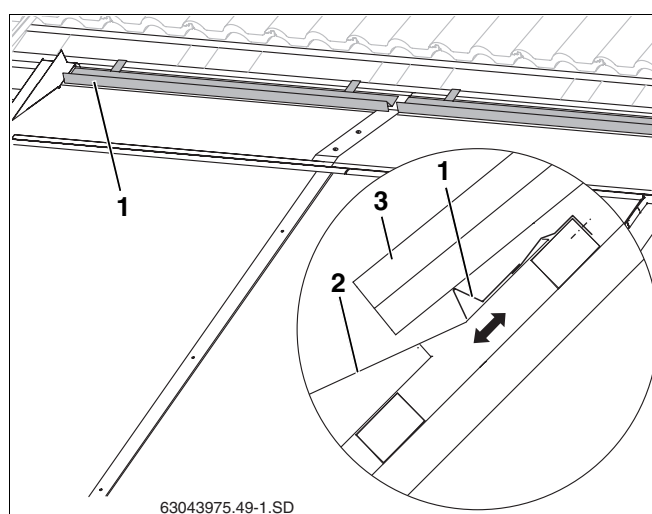

Fig. 61 Laying and securing the pan tile overlay
- it covers the facing panel (Fig. 61, **Item 2**) as much as possible, but does not come into contact with it, and
- ▶ Place the pan tile overlay (Fig. 61, **Item 1**) according to the calculated position and fasten to the roof batten.
- ▶ Lay the cut pan tiles (Fig. 61, **Item 3**).